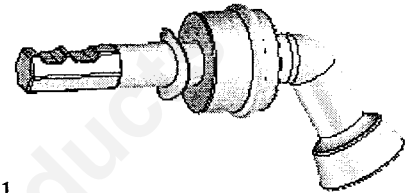

Fig. 1
3.) Slide wave washer(s) onto handle shaft. One for the small door, or two with the large door. (Fig. 1)